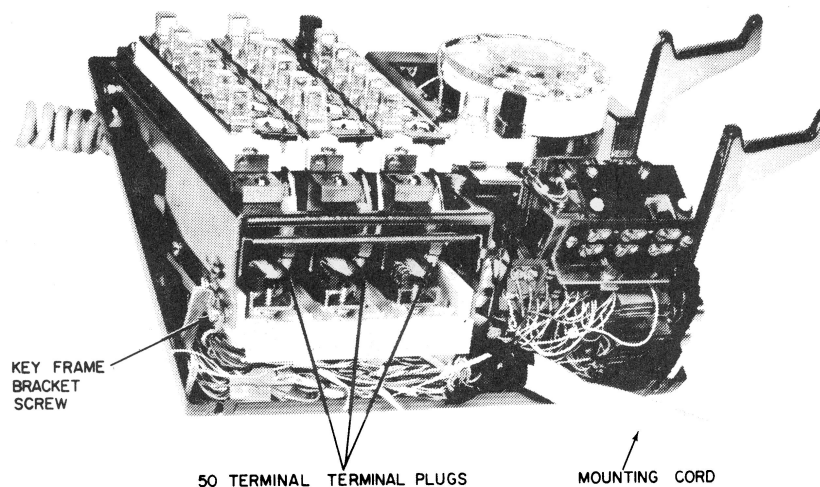
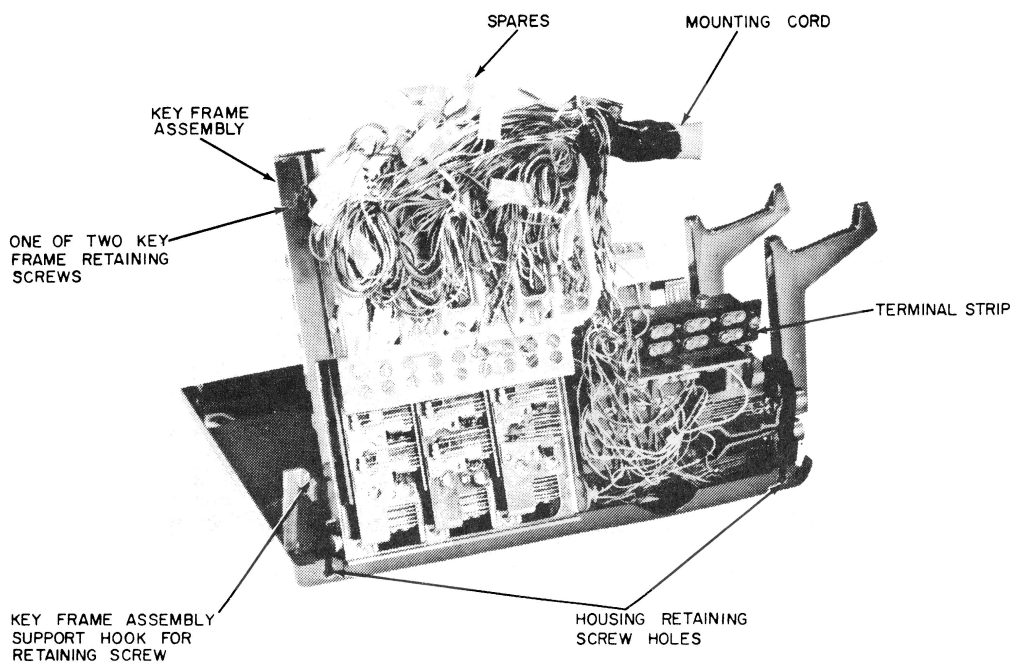

Figure 6. Rear View of Telephone Set.
Figure 7. Rear View of WECO Type 618BW Telephone Set Showing Underside of Key Frame Assembly.
2.05 A few conductors from each 50-terminal plug on the key frame are connected to other plugs or to the 4010B transmission network of the WECO Type 608CW and 618BW telephone sets (Figure 6); however, most of the conductors from the 50-terminal plugs are grouped and enter a plastic cable sheath known as the mounting cord, which is equivalent to the line cord of the conventional telephone set. The mounting cord also includes a number of conductors (spade tipped) that either connect directly to the transmission components or are insulated, taped, and stored for possible future use (Figure 7) with optional or additional features.